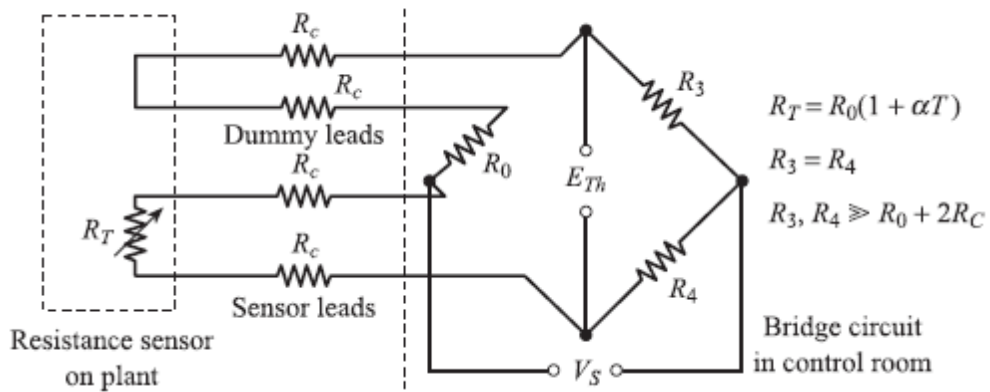

Fig. 1
3. Fig. 1 shows a four-lead bridge circuit; R_c is the resistance of the leads connecting the sensor to the bridge circuit. Show that $E_{Th} \approx V_s \left(\frac{R_0}{R_3} \right) \alpha T$, i.e. the bridge output voltage is unaffected by changes in R_c . State all assumptions.